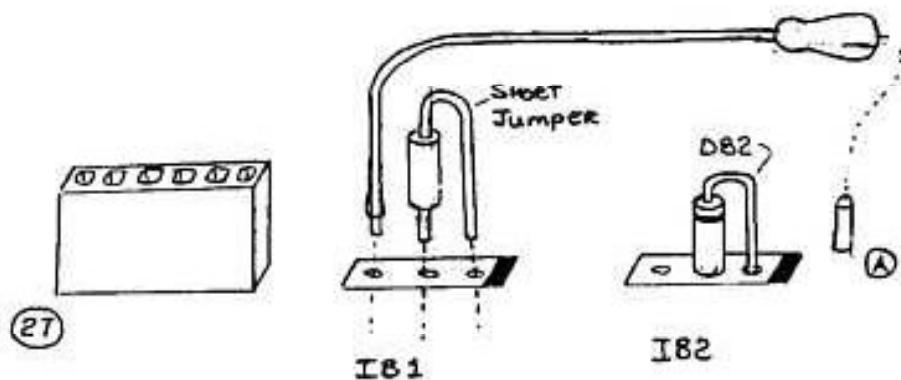

FIGURE 1
11. Check to see if D82 is installed, as shown in figure 1. If it is not, install it (181555). D83 should also be installed on the foil side of the board, as shown in figure 2.
12. Move the filter select jumper to the "A" pin, as shown in figure 1.